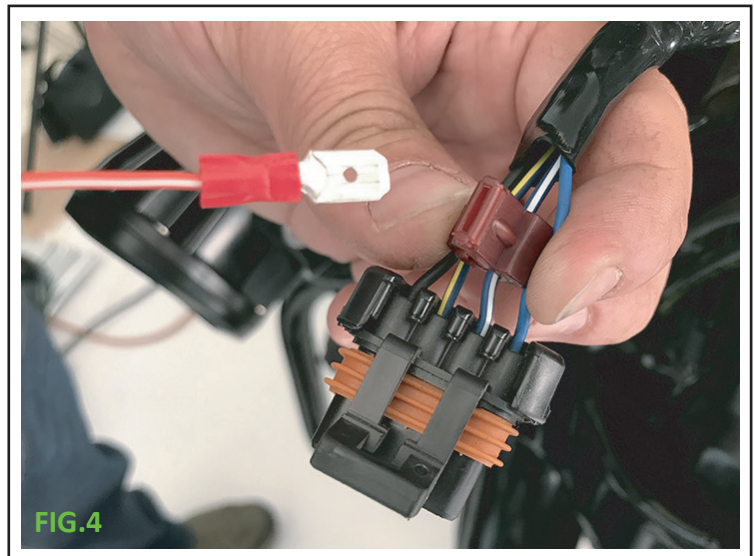

FIG.4
3. If you want the driving lights to come on with the hi-beam connect the red wire to the hi-beam power wire with the included T-Tap. (Fig.4)